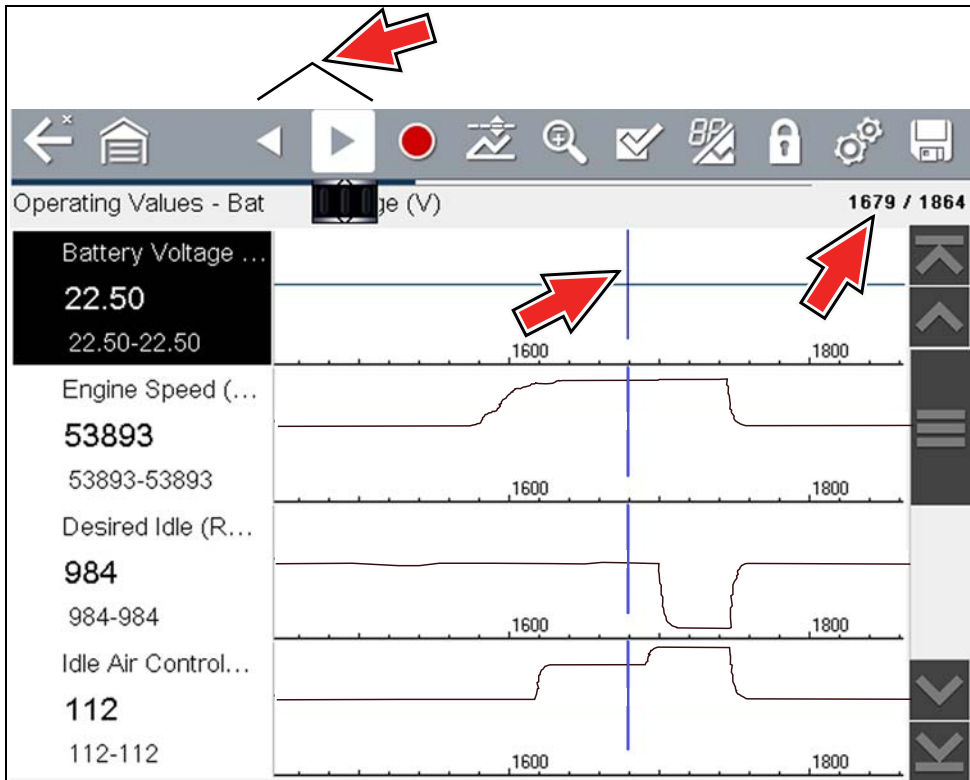

Figure 4-16
- Review control icons are displayed in the toolbar (Figure 4-16). Use the control icons to accurately move through the data and position the blue cursor.
- The blue (vertical cursor) (Figure 4-16) indicates your position in the data and is denoted by the current position value in the counter display. This cursor displays in all PIDs.